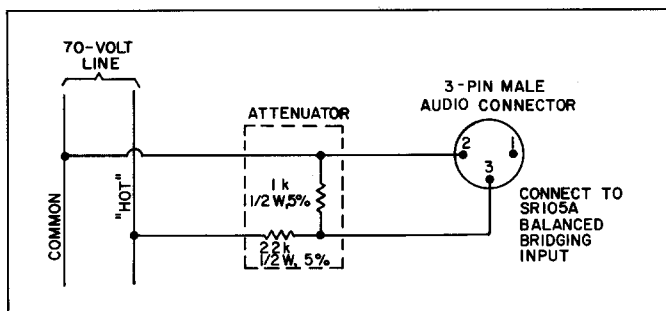

FIGURE 10. 70-VOLT SYSTEM ATTENUATOR
an existing 70-volt system. The Amplifier may be installed either at the end, or anywhere along the system, by using an attenuator such as that shown in Figure 10, Page 11. Connect the attenuator to the 70-volt line as shown, and connect the attenuator plug to the BALANCED BRIDGING Input Jack (5) on the added Amplifier. Set the VOLUME Control (2) on the added Amplifier to 7 to obtain a 70-volt output when the system voltage is at 70 volts. This will pro-